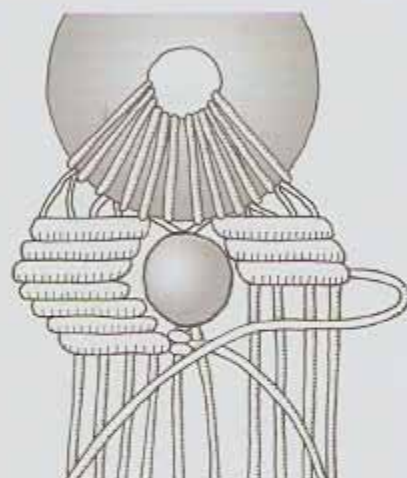

Fig. 2
4. Rows 2 & 3 - Repeat Step 3 for Rows 2 & 3. Check to see that the bottom of Row 3 is to the midpoint of the accent bead. If your bead is longer, add another row of **DHHs**. Ideally, the line (space) between rows 3 & 4 should be at the "equator" of the bead (see Figure 2).